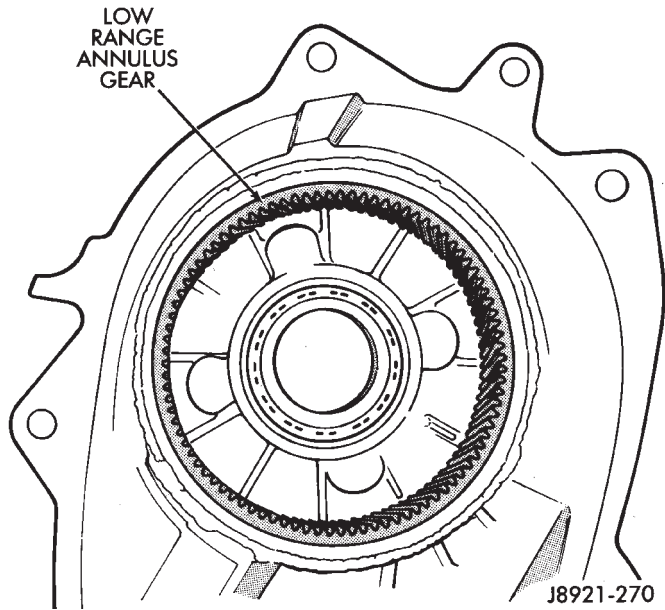

Fig. 38 Inspecting Low Range Annulus Gear
(47) Inspect the low range annulus gear (Fig. 38). **The gear is not a serviceable component. If damaged, replace the gear and front case as an assembly.**